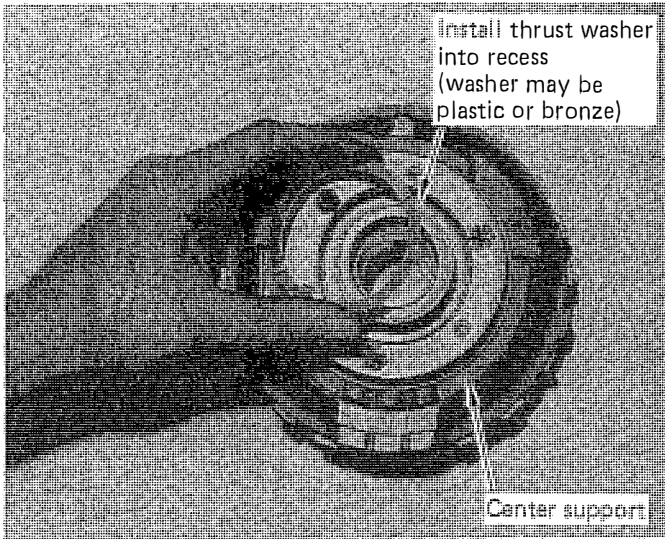

FIGURE 41
STEP 13. Turn the center support over and install the large diameter thrust washer in position inside the recess of the center support. (See Fig. 41) Hold the washer in place with grease. Lubricate the sun gear shaft. Install the center support on the geartrain assembly. Rotate and push down on the center support to engage the low-reaction overrunning clutch. When the center support is fully seated the low reaction carrier will have approximately 1/8" of end play. With the reaction carrier held, the center support must rotate counter-clockwise only looking down on the center support. Clockwise rotation indicates the overrunning clutch is in backwards.